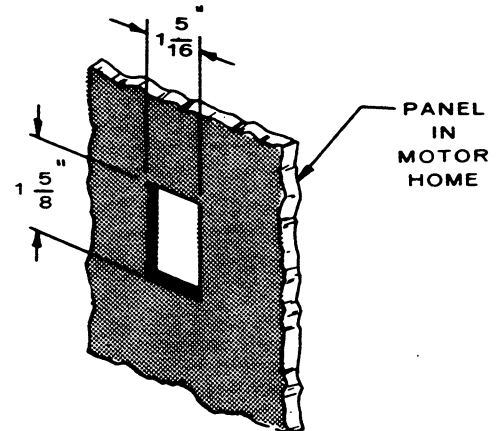

FIGURE 21. MOTOR HOME CUTOUT
1. Select switch location. Using Figure 21 as a guide, drill screw holes and cut holes in RV panel.